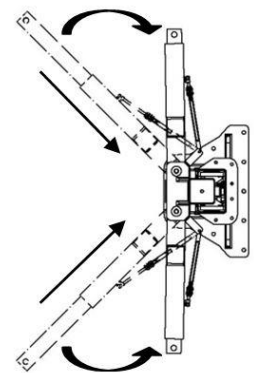

FIGURE 16 : POSITION DES BRAS DE LEVAGE
2. RÉTRACTER L'EXTENSION DES BRAS DE LEVAGE AU MINIMUM ET LES OUVRIR AU MAXIMUM AFIN DE DÉGAGER L'ESPACE ENTRE LES COLONNES. VOIR **FIGURE 16**.
13. RÉTRACTER L'EXTENSION DES BRAS DE LEVAGE AU MINIMUM ET LES OUVRIR AU MAXIMUM AFIN DE DÉGAGER L'ESPACE ENTRE LES COLONNES. VOIR **FIGURE 16**.
1. RÉTRACTER L'EXTENSION DES BRAS DE LEVAGE AU MINIMUM ET LES OUVRIR AU MAXIMUM AFIN DE DÉGAGER L'ESPACE ENTRE LES COLONNES. VOIR **FIGURE 16**.